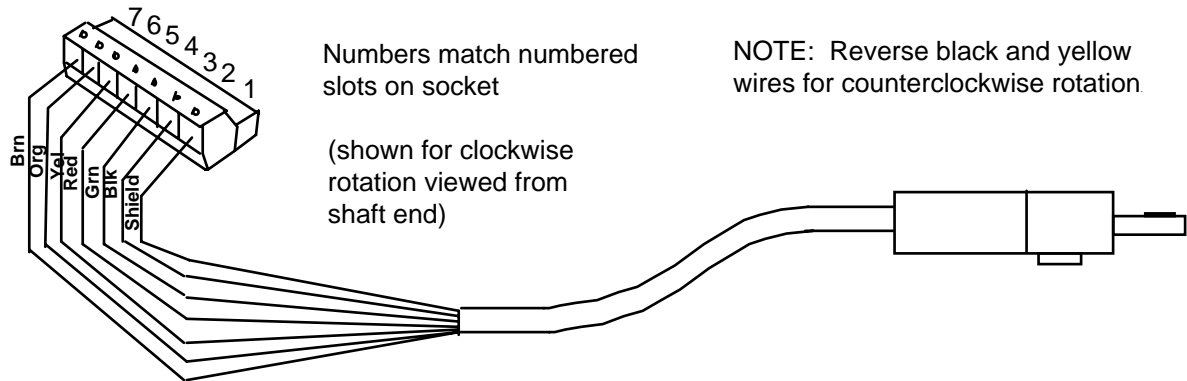
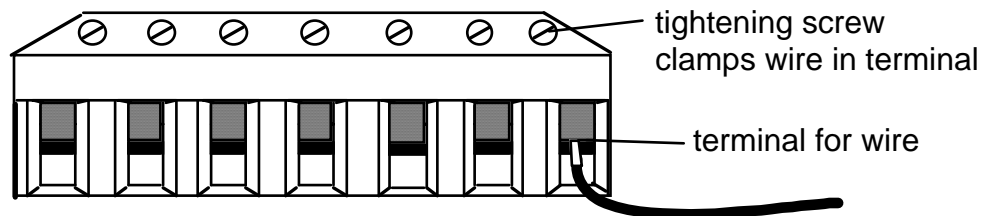

Figure 2-6. Pinout wiring for resolver cable (see Table 2-1 below)
Figure 2-7. Attaching wires to connector
5. Attach the wires to this connector as shown in Figure 2-6. Make sure you connect the black and yellow wires correctly based upon the way your resolver will rotate—clockwise or counterclockwise. To connect a wire, find the correct terminal and loosen the screw over it by turning it counterclockwise (see Figure 2-7). Strip the correct wire for this terminal 1/4" (6.4 mm) from end. Insert bare wire into the terminal 90% of the way. Tighten the screw. The metal tooth inside the terminal will clamp down on the bare wire for a tight connection. Make sure that the metal tooth is clamped down on the bare part of the wire, not on the insulation.